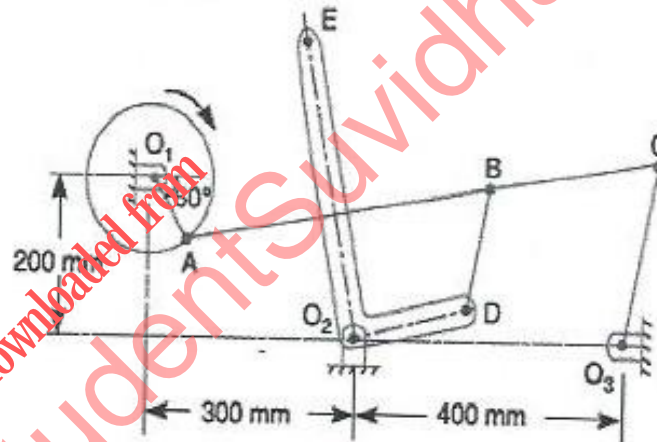

Figure: 1
3. The mechanism of a wrapping machine as shown in figure 1 has the following dimensions O_1A is 100 mm, AC is 700mm, BC is 200mm, QC is 200mm, O_2E is 400mm, O_2D is 200mm and BD is 150mm. The crank O_1A rotates at a uniform speed of 100 rad/s. Find the velocity of the point E of the bell crank lever by instantaneous centre method. [15]